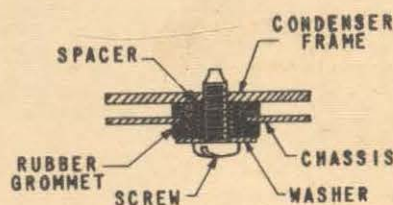
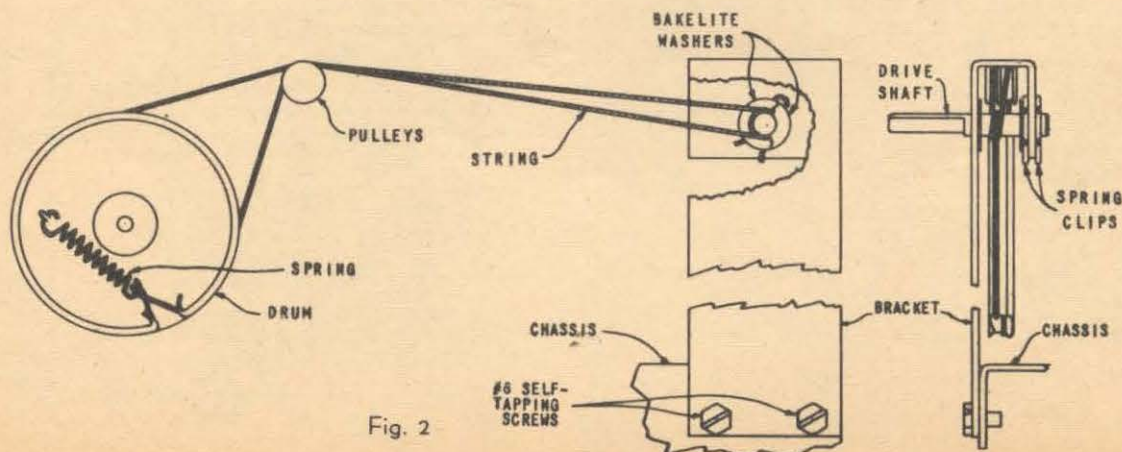

Fig. 1
Fig. 2
This receiver is designed to operate on the standard broadcast band with the loop antenna which is provided, and on the frequency modulation band with a 300 ohm folded dipole antenna, which may be installed in the receiver cabinet (see Fig. 1). In most localities these antennas will be found to give excellent results
2. Mount bracket on front of chassis, as shown in Figure 2. Mount variable capacitor, using grommets as shown in Figure 1.
6. String dial cord as shown in Figure 2.